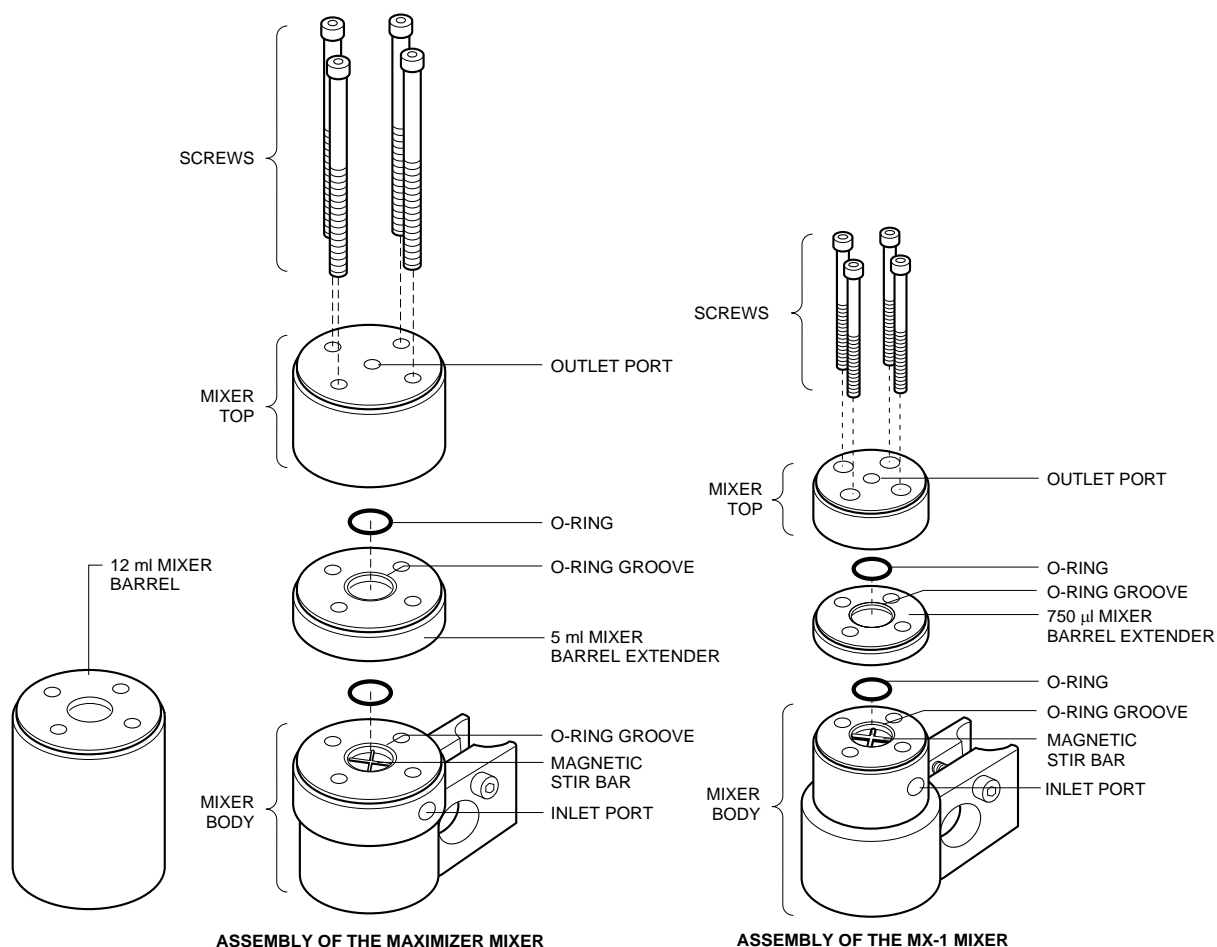

Figure 11-6. Mixer Assembly
2. Remove the mixer top and turn it upside down to remove the O-ring. If the O-ring does not easily dislodge, then use your fingers to remove it. Note the position of the O-rings (refer to Figure 11-6).
4. Refer to Figure 11-6 for re-assembling the mixer. Make sure that the magnetic stir bar lies flat and that the O-ring groove in either the mixer barrel or the mixer barrel extender faces up. Place an O-ring in each O-ring groove. If you are using only the mixer body, then only one O-ring is required. If either the mixer barrel or the mixer barrel extender is used, then two O-rings are required.